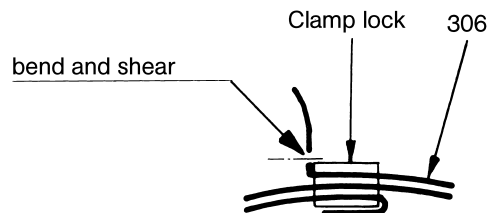

Figure 13: Bending and shearing the clamping band
Note: Clamping bands manufactured in Hastelloy cannot be sheared off with the clamping tool. After bending at the clamping band lock, the clamping band must be sheared off using sheet metal shears and the cut edges de-burred (see Figure 13).
- When using the PoK-It II clamping tool, bend the clamping band (306) at the clamp lock after tightening by pivoting the clamping tool upwards, so that the band cannot slip back through the lock. After bending at the clamp lock, the clamping band must be sheared off with sheet metal shears and the cut edges de-burred (see Figure 13).
ATTENTION Check that the clamping band is sufficiently bent to prevent it from slipping back through the clamp lock (see Figure 13). If this is not the case, remove the clamping band and replace with a new one.